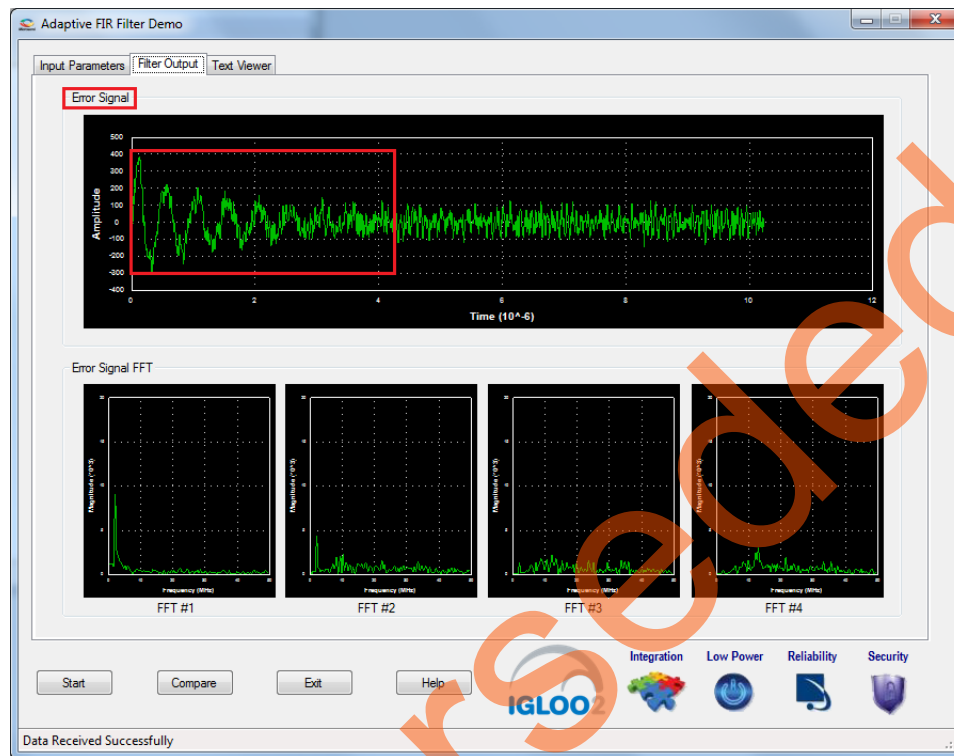

Figure 17 • Error Signal: Time and Frequency Plot
- After completing the filter operation, the GUI displays the error data and its FFT data from the IGLOO2 device and plots as shown in Figure 17. The error signal plot shows the suppression of narrow band component from the signal and outputting wide band signals only after the required number of iterations.